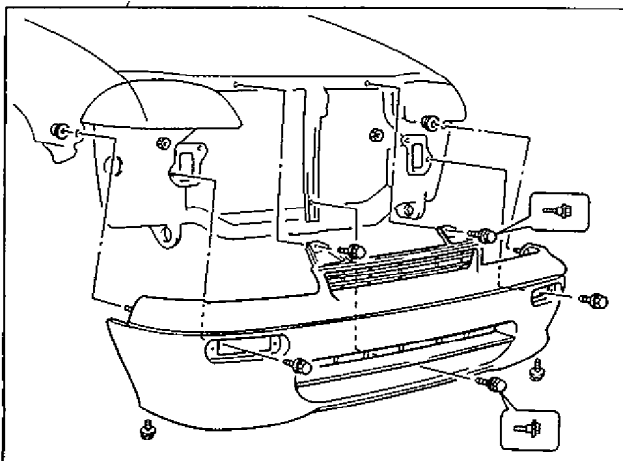

Fig. 2-2
- 3) Remove bumper fitting bolts and nuts shown in Fig. 2-2.
- 2) Remove bumper fitting nuts shown in Fig. 2-2.